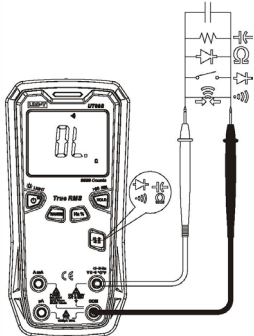

Figure 3
2. Resistance Measurement (Figure 3)
3. Continuity Test (Figure 3)
4. Diode Test (Figure 3)
5. Capacitance Measurement (Figure 3)